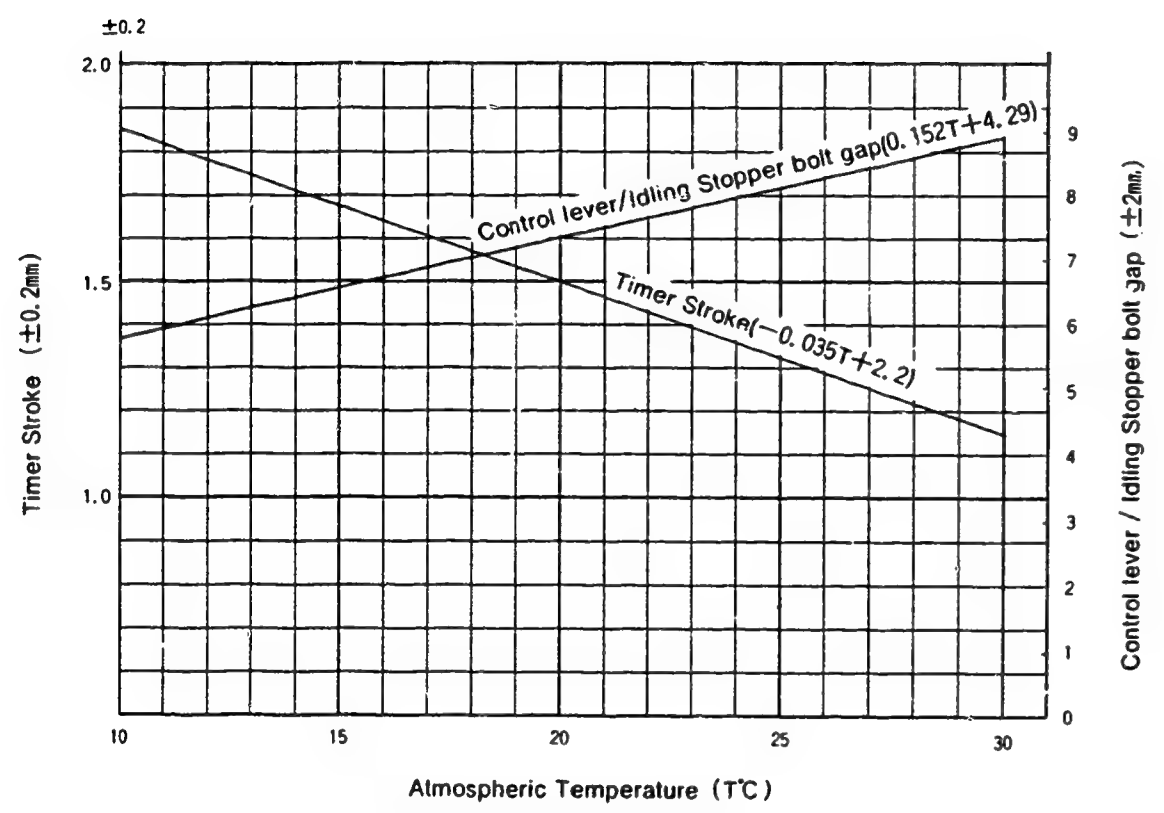

Fig 2
- ① Using the graph (Fig 2), determine the Timer stroke according to the atmospheric temperature at the time of adjustment.
- ② Adjust using the Timer Stroke adjusting bolt so that the Timer Stroke corresponds to the value determined in note ① above.
- ① Insert a block gauge of  $5.3 \pm 0.05$ mm thickness in the gap between the control lever and the idling stopper bolt.
- ② From Fig 2 determine the dimension of the gap between the idling lever pin and the control lever according to the atmospheric temperature at the timer of adjustment.
- ③ Adjust using the fast idle adjusting screw so that the gap corresponds to the value determined in note 2) ② above.